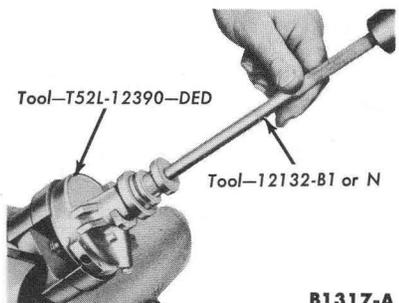

FIG. 6—Bushing Removal
14. Compress and insert the slotted end of the bushing removal tool into the distributor body. Allow it to expand and butt against the bushing. Drive out the bushing (Fig. 6).